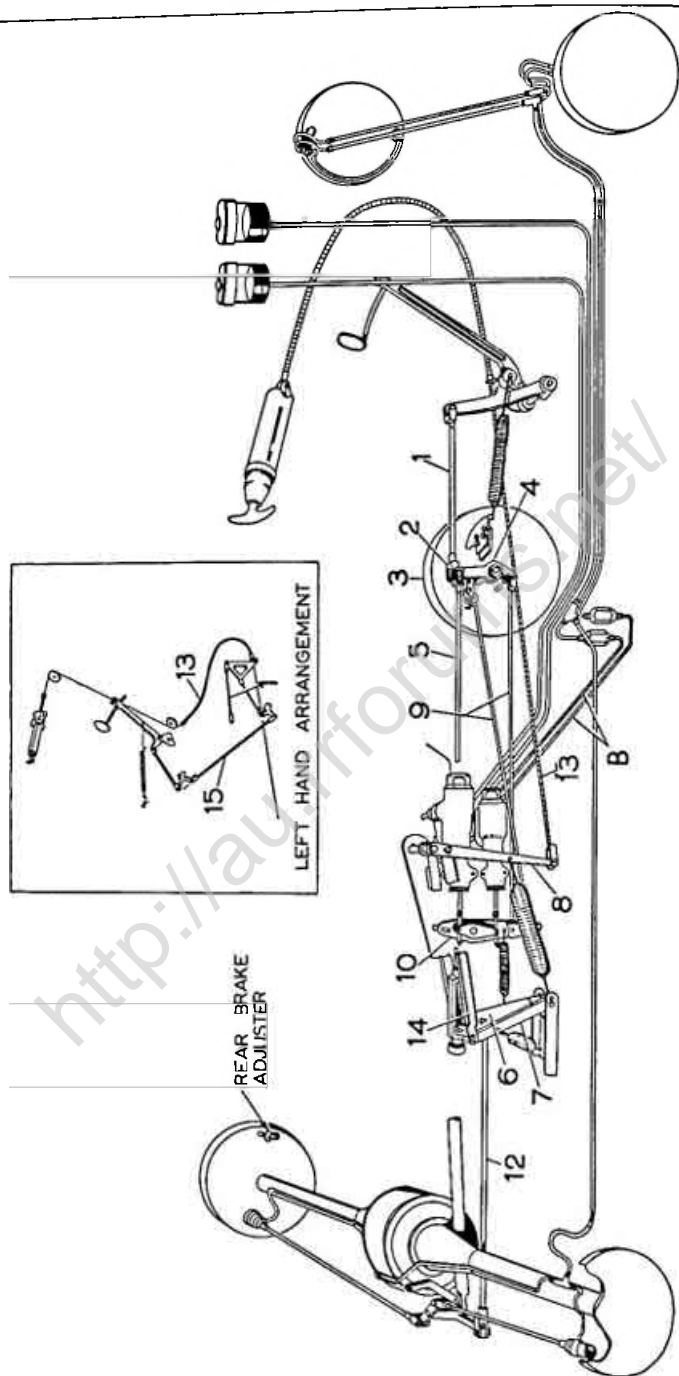

Fig. 19.—ROLLS-ROYCE BRAKING SYSTEM.
Pressure on the brake pedal actuates the servo, which in turn operates through the dual master cylinders to supply hydraulic pressure to the front and rear brakes. The front brakes are entirely operated by hydraulic pressure, whereas the rear brakes are simultaneously operated both hydraulically by the servo and mechanically by direct pedal effort, as shown in Fig. 19, in the proportions of 60 per cent. hydraulic and 40 per cent. mechanical.
On right-hand drive cars, the brake pedal directly operates the pull rod (1, Fig. 19); on left-hand drive models the pedal operates the pull rod through the medium of the cross shaft (15) as shown in the inset. The pull rod is coupled to the lever (2) of the servo motor (3), and this lever has inclined cams formed on the face of its boss which engages, through the medium of steel balls, with similar cams on the face of the lever (4).
3. Pump the master cylinders by movement of lever (10, Fig. 19). Operate the master cylinder with a deliberate forward movement; at the same time open the bleed screw. At the end of the forward stroke, close the bleed screw and then allow the master cylinder pistons to return to the rest position with the bleed screw still closed.